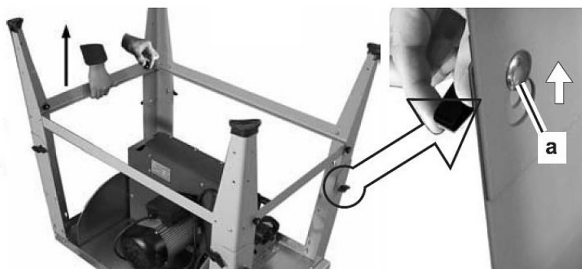

Fig. 7: Folding out the feet
Step 2: Fold up the four legs and fasten the legs with the wing nuts and flat screws. Slide the screws up in the groove (Pos.a, Fig.7) and tighten them firmly.